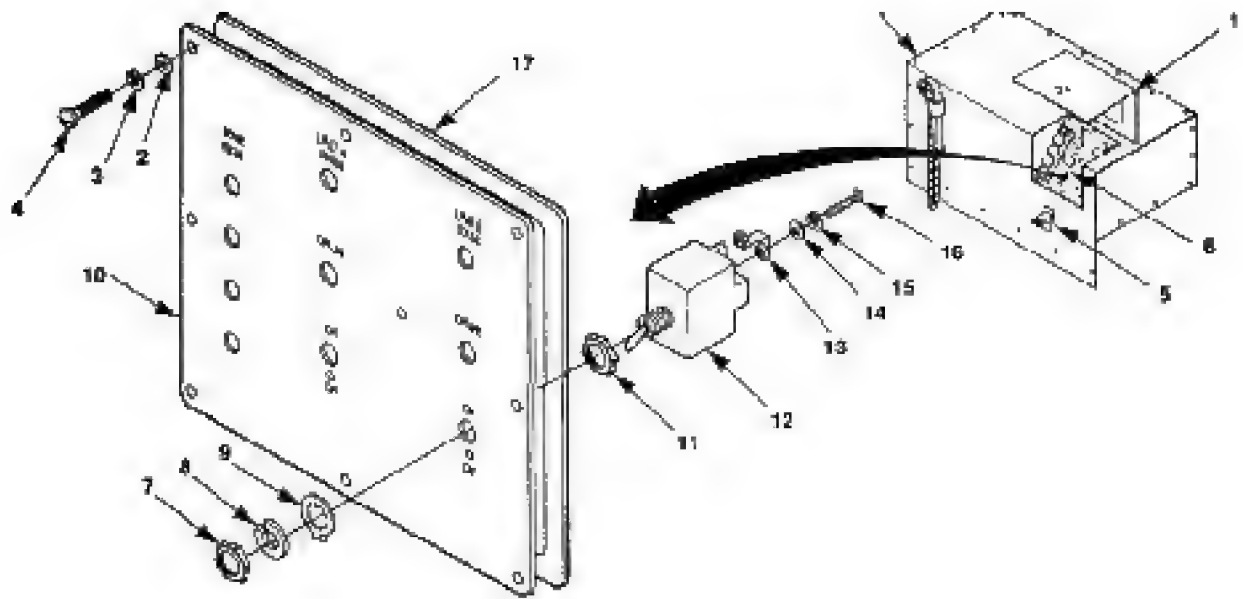

Figure 4-12. Switch Replacement
1. Release clamping catch(5, Figure 4-12) and open the control panel access cover (1).
2. Remove 8 screws (4), flat washers (2), and lock washers (3). Remove control panel assembly (10).
3. Tag wires on terminals 3,4, and 6 of switch (12).
4. Remove terminal screws (16), lock washers (15), flat washers (14), and conductor bus (13) from switch terminals.
5. Remove nut (7), lock washer (8), locking ring (9), and switch (12).